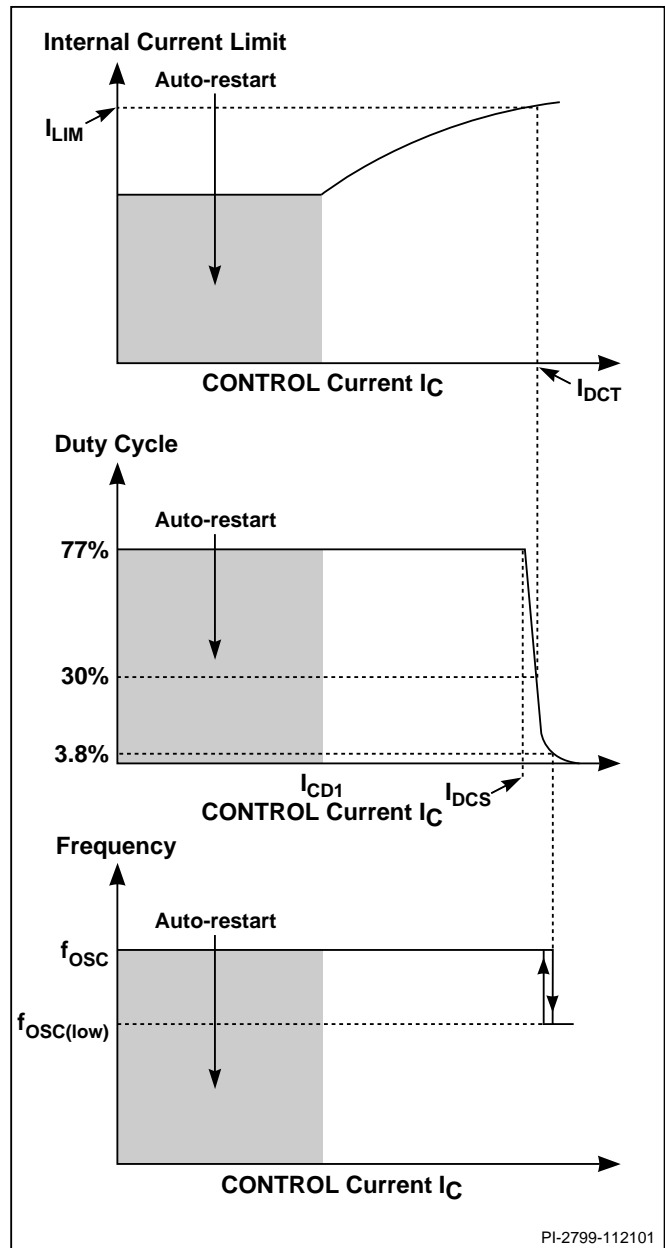
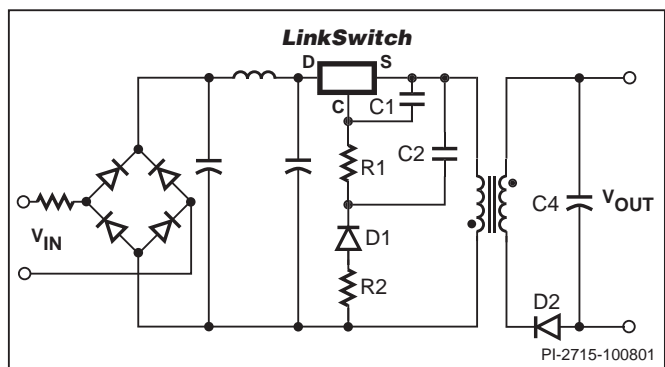
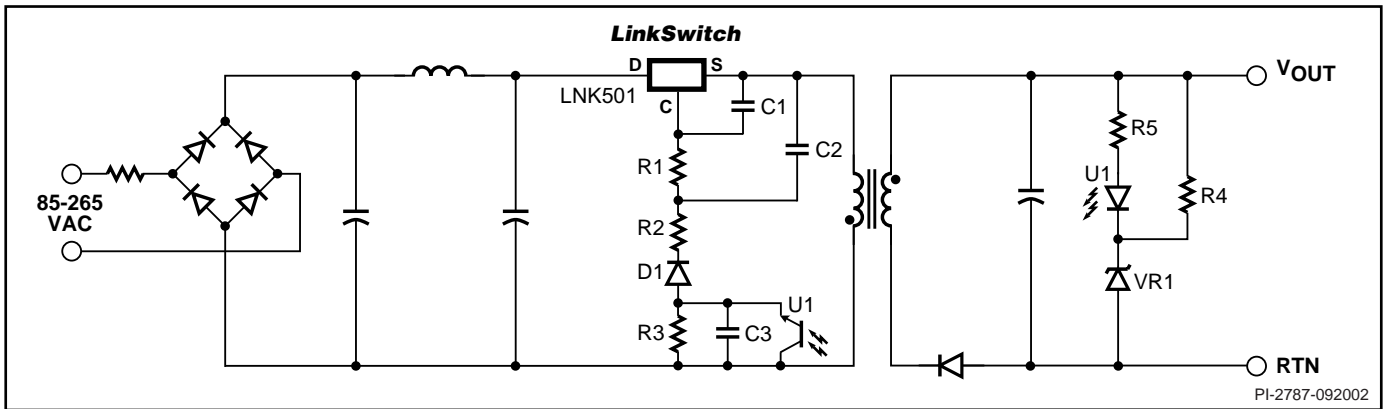

Figure 4. CONTROL Characteristics.
Figure 5. Power Supply Outline Schematic.
Figure 6. Power Supply Outline Schematic with Optocoupler Feedback.
The duty cycle, current limit and operating frequency relationships with CONTROL pin current are shown in Figure 4. Figure 5 shows a typical power supply outline schematic which is used below to describe the *LinkSwitch* operation.
During power up, as  $V_{IN}$  is first applied (Figure 5), the CONTROL pin capacitor C1 is charged through a switched high voltage current source connected internally between the DRAIN and CONTROL pins (see Figure 2). When the CONTROL pin voltage reaches approximately 5.7 V relative to the SOURCE pin, the high voltage current source is turned off, the internal control circuitry is activated and the high voltage internal MOSFET starts to switch. At this point, the charge stored on C1 is used to supply the internal consumption of the chip.
As the output voltage, and therefore the reflected voltage across the primary transformer winding ramp up, the feedback CONTROL current  $I_C$  increases. As shown in Figure 4, the internal current limit increases with  $I_C$  and reaches  $I_{LIM}$  when  $I_C$  is equal to  $I_{DCT}$ . The internal current limit vs.  $I_C$  characteristic is designed to provide an approximately constant power supply output current as the power supply output voltage rises.
When  $I_C$  exceeds  $I_{DCS}$ , typically 2 mA (Figure 4), the maximum duty cycle is reduced. At a value of  $I_C$  that depends on power supply input voltage, the duty cycle control limits *LinkSwitch* peak current below the internal current limit value. At this point the power supply transitions from CC to CV operation. With minimum input voltage in a typical universal input design, this transition occurs at approximately 30% duty cycle. R1 (Figure 5) is therefore initially selected to conduct a value of  $I_C$  approximately equal to  $I_{DCT}$  when  $V_{OUT}$  is at the desired value at the minimum power supply input voltage. The final choice of R1 is made when the rest of the circuit design is complete. When the duty cycle drops below approximately 4%, the frequency is reduced, which reduces energy consumption under light load conditions.
Figure 6 shows a typical power supply outline schematic using *LinkSwitch* with optocoupler feedback to improve output voltage regulation. On the primary side, the schematic differs from
Figure 5 by the addition of R3, C3 and optocoupler U1. R3 forms a potential divider with R1 to limit the U1 collector emitter voltage.
The feedback configuration in Figure 6 is simply a resistive divider made up of R1 and R3 with D1, R2, C1 and C2 rectifying, filtering and smoothing the primary winding voltage signal. The optocoupler therefore effectively adjusts the resistor divider ratio to control the DC voltage across R1 and therefore, the feedback current received by the *LinkSwitch* CONTROL pin.
When the power supply operates in the constant current (CC) region, for example when charging a battery, the output voltage is below the voltage feedback threshold defined by U1 and VR1 and the optocoupler is fully off. In this region, the circuit behaves exactly as previously described with reference to Figure 5 where the reflected voltage increases with increasing output voltage and the *LinkSwitch* internal current limit is adjusted to provide an approximate CC output characteristic. Note that for similar output characteristics in the CC region, the value of R1 in Figure 5 will be equal to the value of R1+R3 in Figure 6.
When the output reaches the voltage feedback threshold set by U1 and VR1, the optocoupler turns on. Any further increase in the power supply output voltage results in the U1 transistor current increasing, which increases the percentage of the reflected voltage appearing across R1. The resulting increase in the *LinkSwitch* CONTROL current reduces the duty cycle according to Figure 4 and therefore, maintains the output voltage regulation.
transistor voltage and dissipation ratings and should be fully tested before finalizing a design. The values of C2 and C3 are less important other than to make sure they are large enough to have very little influence on the impedance of the voltage division circuit set up by R1, R3 and U1 at the switching frequency. Normally, the values of C2 and C3 in Figure 6 are chosen equal to the value of C2 in Figure 5, though the voltage rating may be reduced depending on the relative values of R1 and R2 discussed above. See Applications section for typical values of components.
The output voltage load variation can be improved to be  $\pm 5\%$  across the whole load range by adding an optocoupler and secondary reference (Figure 6). The secondary reference is designed to only provide feedback above the normal peak power point voltage to maintain the correct constant current characteristic.
The schematic shown in Figure 5 outlines the key components needed for a *LinkSwitch* Supply.
As the SOURCE pins in a *LinkSwitch* supply are switching nodes, the copper area connected to SOURCE together with C1, C2 and R1 (Figure 5) should be minimized, within the thermal constraints of the design, to reduce EMI coupling.